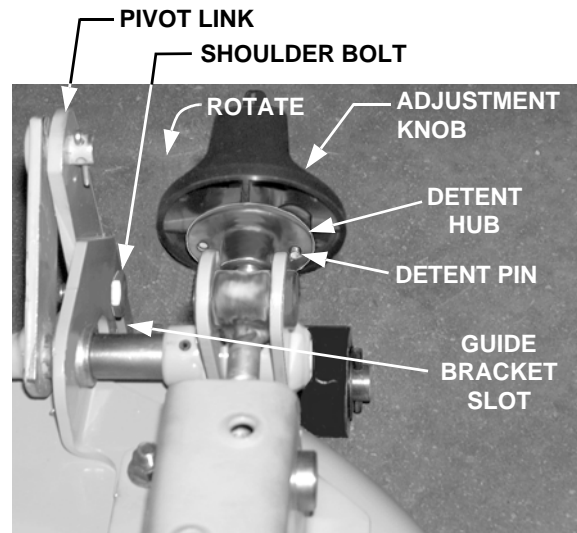

Figure 7
1. From the left/rear of the deck, pull the adjustment knob rearward to disengage the detent pin of the knob from the hole in the detent hub (See Figure 7). Hold the knob rearward.
2. Turn the knob clockwise until the shoulder bolt fastened to the roller pivot link is at the top of the slot in the roller guide bracket (See Figure 7).
- From the left/rear of the deck, pull the adjustment knob rearward to disengage the detent pin of the knob from the hole in the detent hub (See Figure 7). Hold the knob rearward.
- Turn the knob clockwise until the shoulder bolt in the roller pivot link is at the top of the slot in the roller guide bracket (See Figure 7).